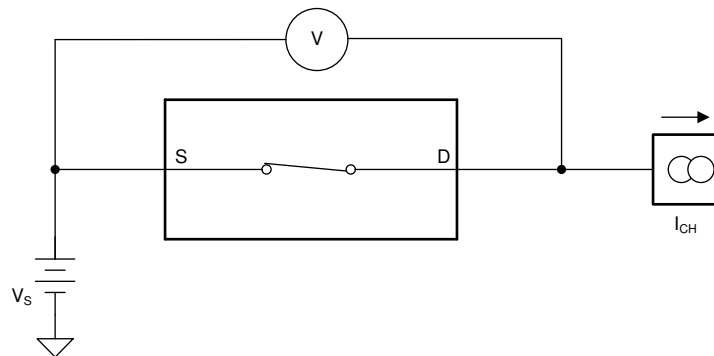

Figure 8-1. On-Resistance Measurement Setup
The on-resistance of the TMUX6121, TMUX6122, and TMUX6123 is the ohmic resistance across the source (Sx) and drain (D) pins of the device. The on-resistance varies with input voltage and supply voltage. The symbol R_{ON} is used to denote on-resistance. The measurement setup used to measure R_{ON} is shown in Figure 8-1. Voltage (V) and current (I_{CH}) are measured using this setup, and R_{ON} is computed as shown in Equation 1: